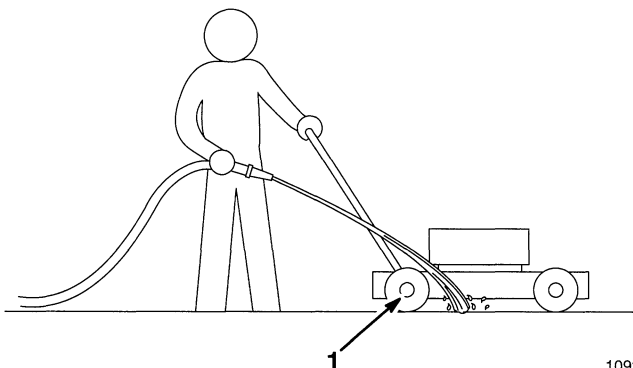

Figure 30
3. Hold the running garden hose at handle level and direct water to flow on ground just in front of right rear tire (Fig. 30). The rotating blade will draw water under the deck and wash out clippings. Let the water run for a few minutes or until you no longer see clippings being washed out from under deck.